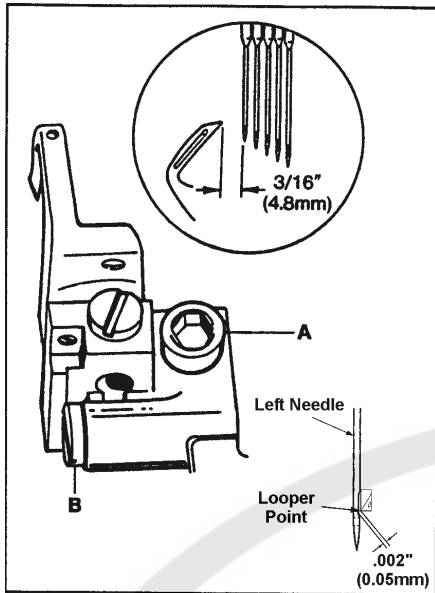

FIG. 15
Turn the handwheel in operating direction until the looper has traveled fully to the left. Loosen screw (A, Fig. 15) and move the looper holder to the right or left until the distance from the point of the looper to the center of the first (left) needle is $3/16$ " (4.8mm) (Looper gauge 21225F3/16 can be used for a more accurate measurement). Clearance between the looper point and the scarf of the needle must not exceed $.002$ " (0.05mm). Turn screw (B) until the $.002$ " (0.05mm) dimension is achieved. Tighten screw (A).